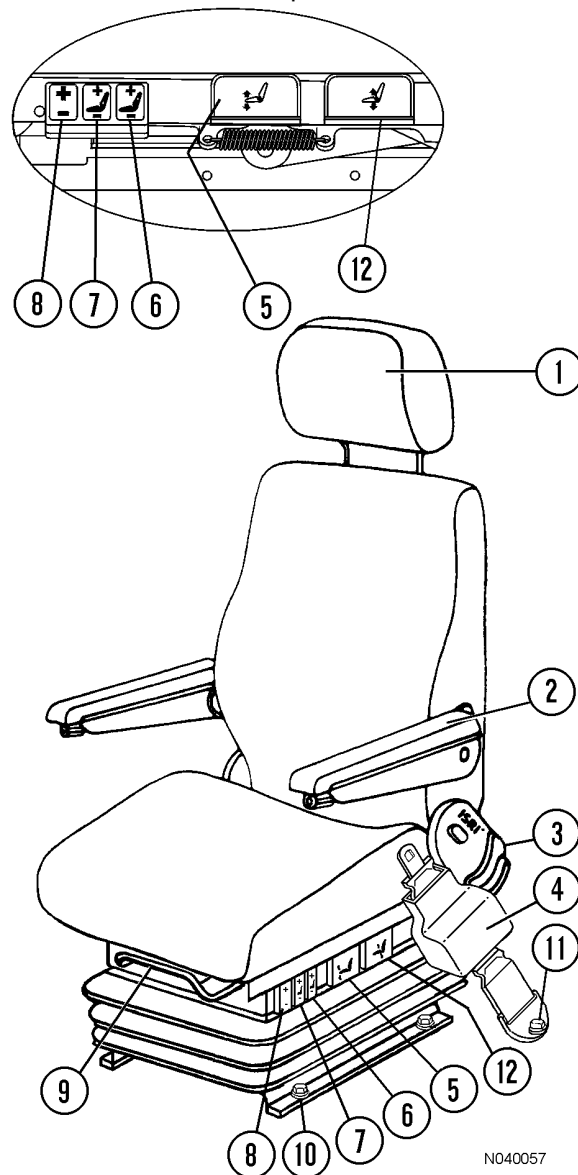

FIGURE 3-5. OPERATOR'S SEAT ADJUSTMENT CONTROLS
1. **Headrest:** (1, Figure 3-5) will move up, down, fore, or aft by moving headrest to desired position.
3. **Backrest:** Lift backrest adjustment handle (3) to release and select the backrest angle. Release the control handle to set.
4. **Seat Belt:** The operator must have seat belt (4) buckled in place and properly adjusted whenever vehicle is in motion.
5. **Seat Slope:** Lift seat slope lever (5) and hold to adjust the slope of the seat. Release the lever to lock the adjustment.
6. & 7. **Air Lumbar Support:** Each rocker switch (6 or 7) controls an air pillow. Switch (7) controls the lower air pillow and switch (6) controls the upper air pillow. To inflate, press on top of the rocker switch and hold for desired support, then release. To deflate, press on the bottom of the rocker switch and hold for desired support, then release. Adjust each pillow for desired support.
8. **Seat Suspension:** Press rocker switch (8) on top to increase ride firmness. Press on lower part of rocker switch to decrease ride firmness.
9. **Fore/Aft Location of Seat:** Lift fore and aft lever (9) and hold. Bend knees to move seat to a comfortable position. Release the control lever to lock the adjustment.
12. **Seat Height:** Lift lever (12) and hold to adjust the height of the seat.